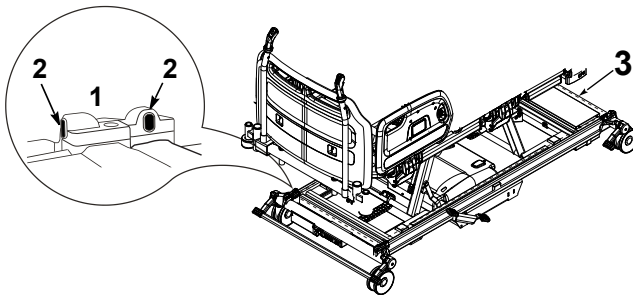

Figure 29: Anti-entrapment sensors and beam
Clean the lenses (See Figure 29, item 2) of the infrared sensors regularly using a soft dry cloth.